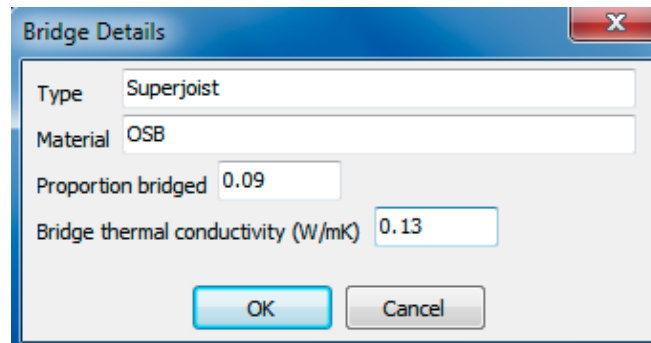

Figure 5: Defining a new type of standard bridging
4. In the **Bridge Details** dialogue (Figure 5) enter:
2. In the **Bridge Details** dialogue (Figure 5) change the settings you need to.